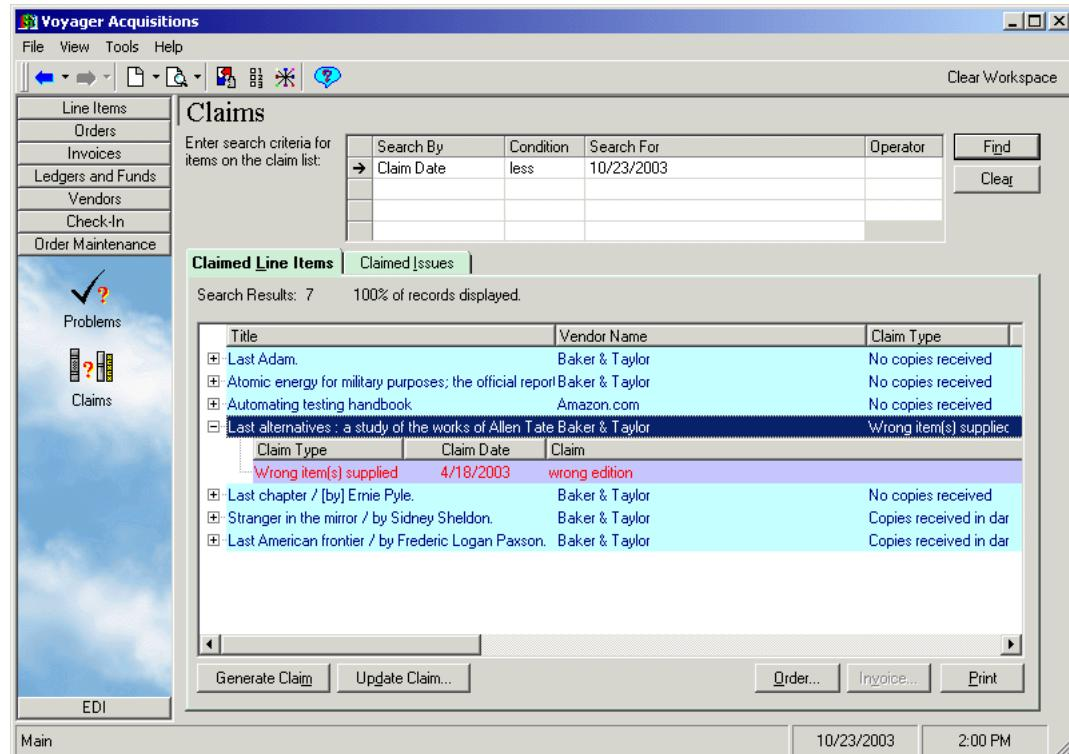

Figure 2-106. Claims workspace search results
8. To process an item, select it and click the wanted action button (see Figure 2-106). See Claims Workspace on page 11-21.